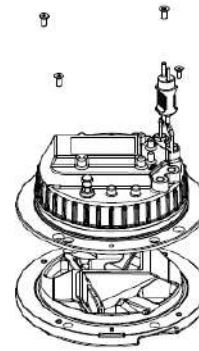

Figure 5-20
- Make the pin hole of the inner cover aim at that of the upper cover and connect them with M5×12 sunk screws (Figure 5-20).